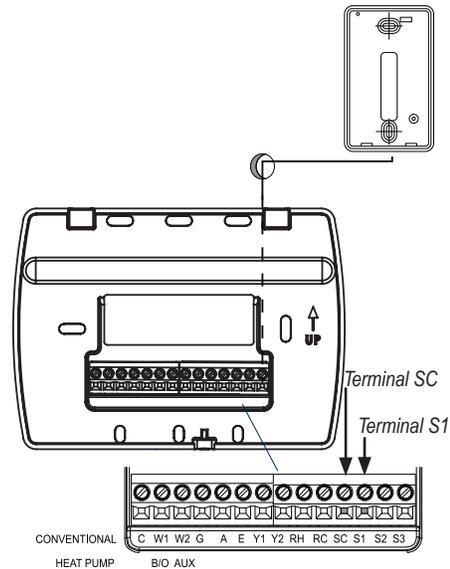

Figure 23.
2. **Connect wires.** Connect the wiring to the terminals at the thermostat wallplate (S1 and SC) See Fig. 23, below.